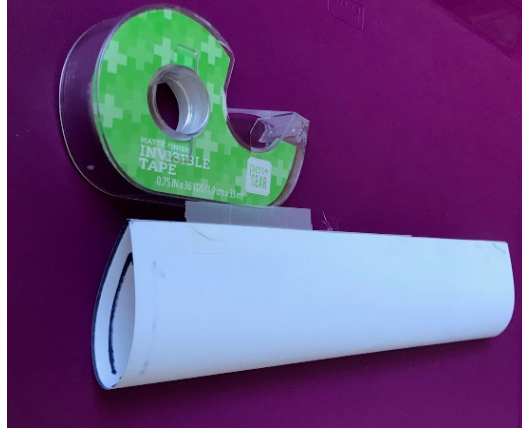

Figure 2. Airfoil shape
2. Airfoil instructions: Fold the first section in half to make an airfoil, or wing, about 2.5 inches (6.4 cm) wide. Do not crease. See Figure 2.